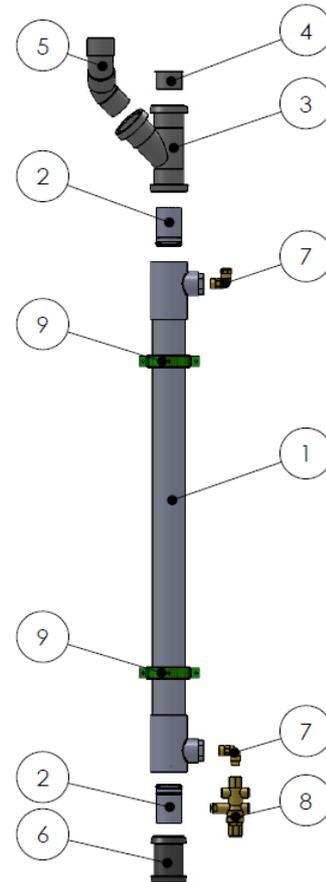

Fig. 3. Component arrangement.
4. Attach the waste water connections (Part No's 2,3,4,5 & 6), as shown in figure 3 with PVC glue (Except Part No. 4, which needs to remain removable to allow access for cleaning).
The maintenance required for the RECOUP Pipe+ is very minimal, however, it is recommended to clean the unit periodically to avoid any reduction in efficiency. This cleaning will remove any build-up of soap and dirt residue on the inside of the copper pipe where the waste water passes. To clean, remove the cap (Part 3 in Figure 3) and pass through a 30-40mm brush attached securely to a plumbing spring that is 2m or longer in length.